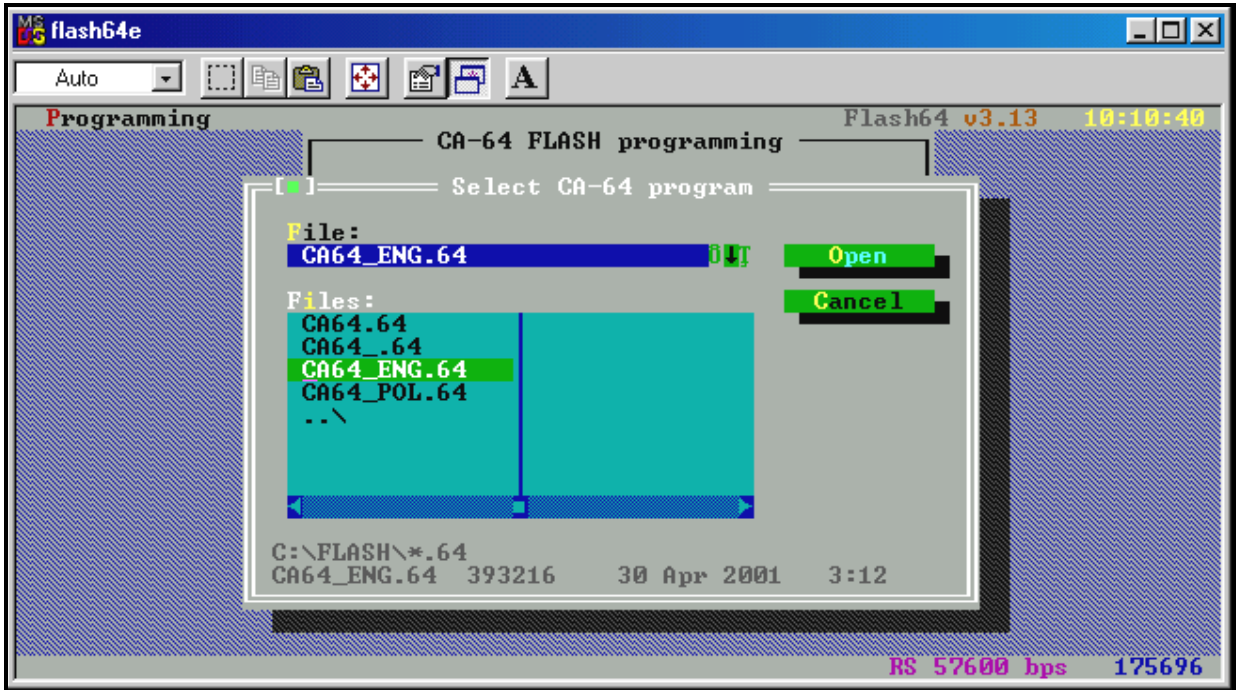

Fig. 5
- Indicate the file with a new program for the panel. Press the Tab key to go over to the **File** segment: - see Fig. 5. Using the arrow keys ↑↓←→ and Enter ↵ move through the tree structure of directories and select the right file. The line in the lower portion of the screen shows description of the access path, thus providing information on the selected file source directory.